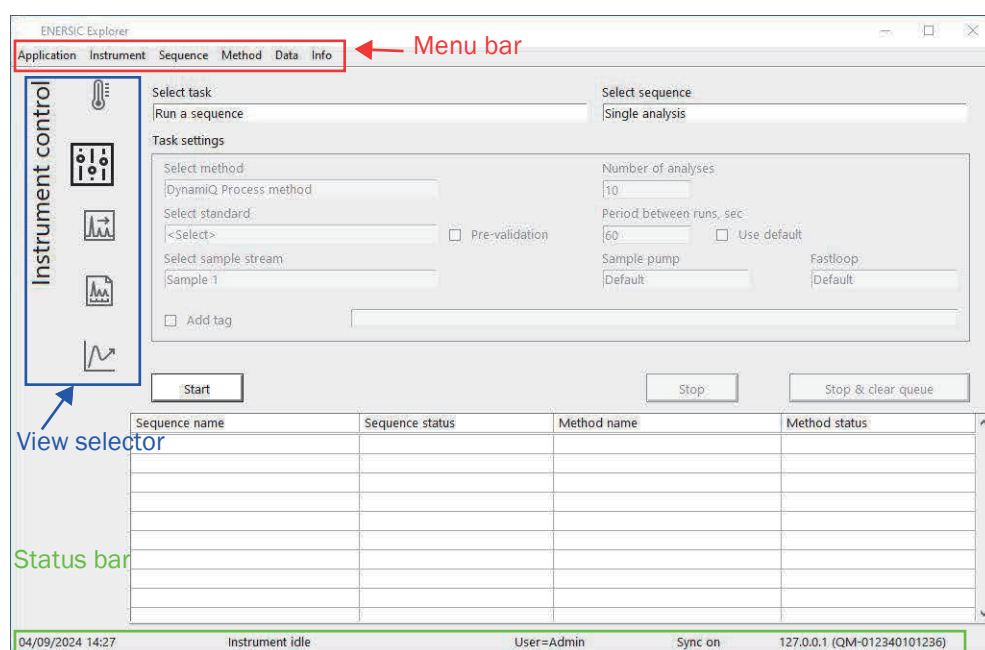

Fig. 3: Main user interface (UI) (online view)
The main user interface (UI) (Figure 3) consists of a menu bar (Application, Instrument, Sequence, Method, Data, Info) and fields (Instrument control, Instrument status, Live view, Result view, Trend view) on the view selector which is on the left hand side of the main window. Instrument control, Instrument status, Live view fields and Instrument menu on the menu bar are available only when the software is connected to an analyzer (online). The status bar at the bottom shows instrument current date - time, instrument status, current user, progress indicator and connection status.